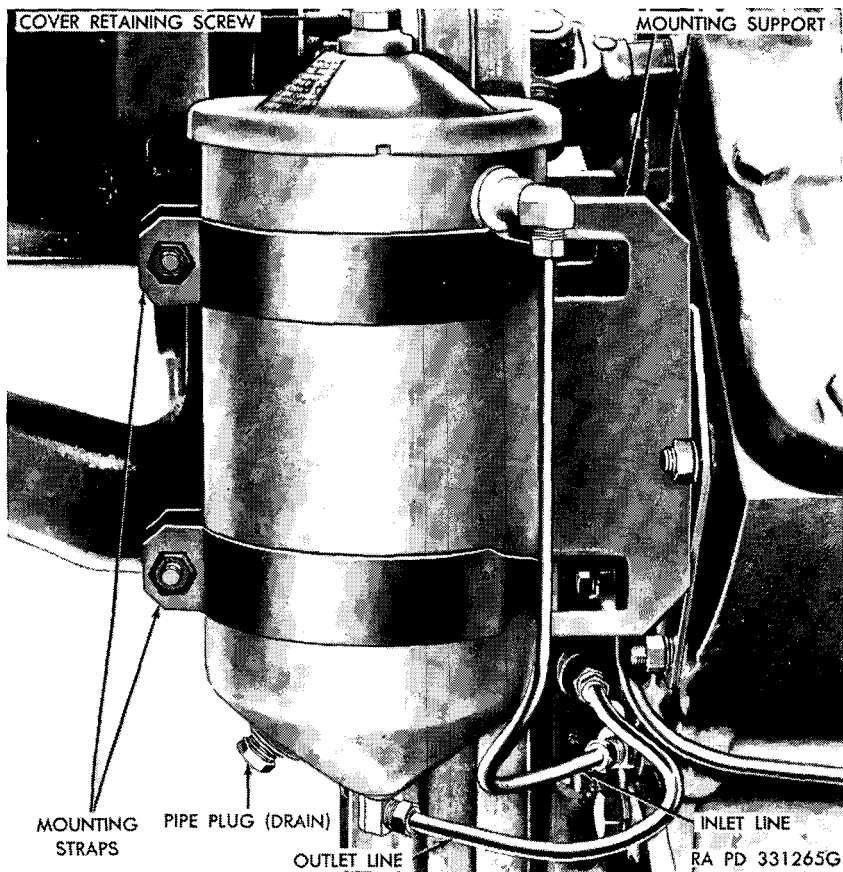

Figure 41. Oil filter installed.
a. GENERAL. Each engine is equipped with an oil filter mounted in a bracket attached to the front end of the engine. Oil enters the filter through the inlet line connected to the main oil header at the front of the engine block. After the oil passes through the filter, it is returned to the engine through the outlet line connected to the engine front cover (fig. 41).
- (1) *Open engine compartment.* Open engine compartment hinged door and remove radiator air outlet grille.
- (2) *Remove filter element.* Remove retaining screw from top of oil filter cover (fig. 41) and remove cover and gasket. Discard gasket. Remove old filter element by lifting it out of filter body. If filter element is tight, be careful not to nick the gasket surface on the filter body in prying the element out.
- (2) *Disconnect oil pipes.* Place rags or container under oil filter to prevent oil from running over hull floor. Disconnect inlet line at top of filter by unscrewing flared tube nut from elbow (fig. 41). Disconnect outlet line at bottom of filter by unscrewing flared tube from elbow.
- (3) *Remove oil filter assembly.* Remove two nuts and bolts from mounting straps and lift out filter assembly (fig. 41).
- (4) *Remove oil pipes from engine.* Disconnect inlet pipe from fitting connected to main oil header at front of cylinder block. Disconnect outlet pipe from fitting on engine front cover.
- (5) *Remove oil filter mounting support.* Remove three nuts and washers holding mounting support to front of cylinder block. Remove support.